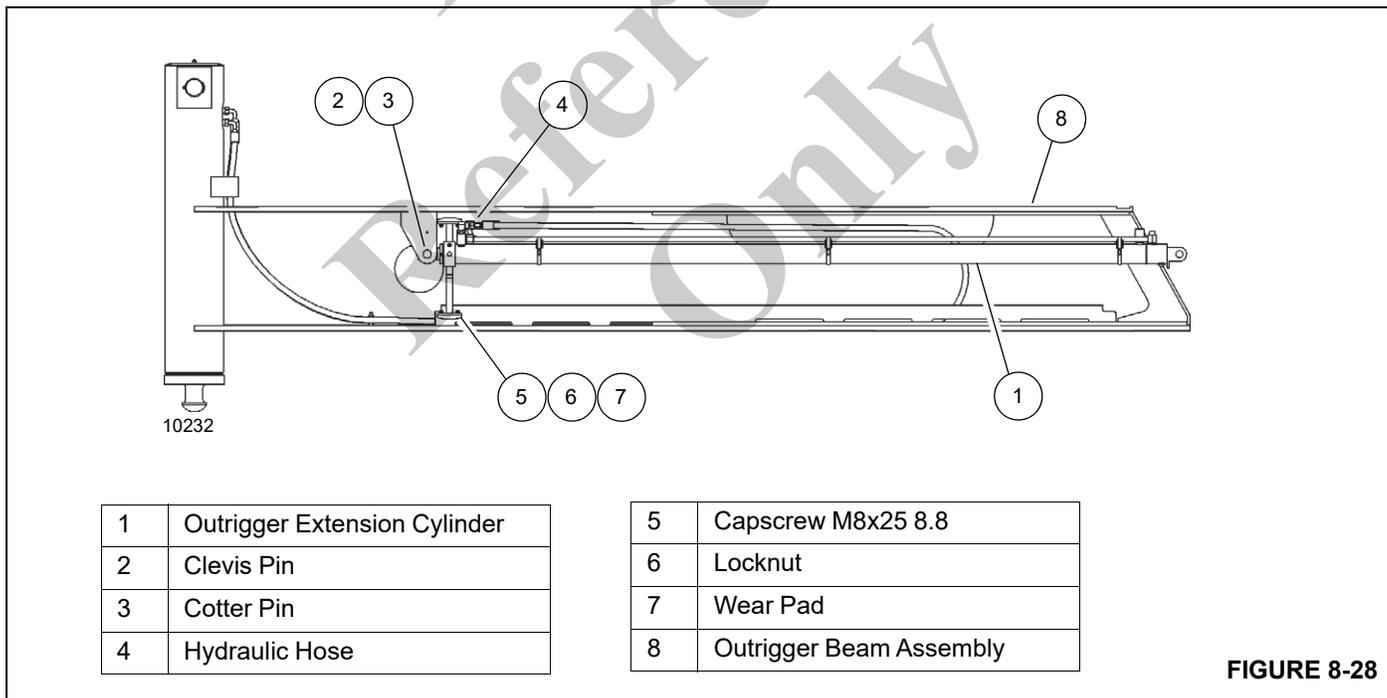

FIGURE 8-28
Two outrigger extension cylinders(1, Figure 8-28) are utilized within each outrigger box assembly. The extension cylinders
1. Remove the outrigger extension beam (1, Figure 8-28) from the outrigger box. For more information, see *Outrigger Beam*, page 8-25.
2. Remove the cotter pin (2) and clevis pin (3) securing the
- rod end of the extension cylinder (1) to the outrigger beam (8).
3. Pull the extension cylinder (1) from the outrigger beam until the hydraulic hoses (4) on the rod end of the cylinder can be accessed. Tag and disconnect the